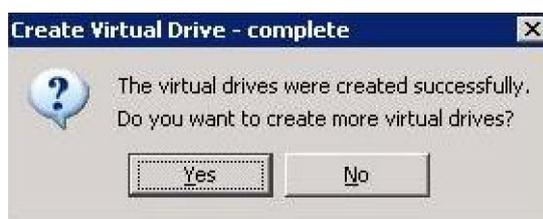

Figure 108. Option to Create Additional Virtual Drives
8. After the configuration is completed, a dialog box may or may not notify (depending on different utility version) you that the virtual drives were created successfully, as shown in Figure 108. If more drive capacity exists, the dialog box asks whether you want to create more virtual drives. If no more drive capacity exists, you are prompted to close the configuration session.